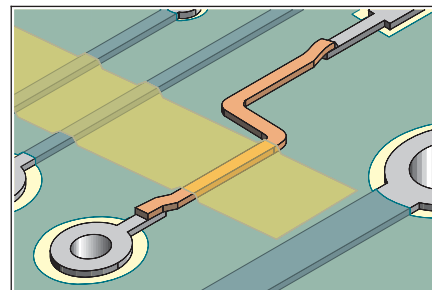

Figure 5 Form the final shape of the jumper and hold in place with tape.
16. Form the final shape of the jumper and hold in place with tape. Lap solder the foil jumper to the remaining conductor on the printed wiring board surface using solder and a soldering iron. Remove the tape used to hold the foil jumper. Clean the area. (See Figure 5.)